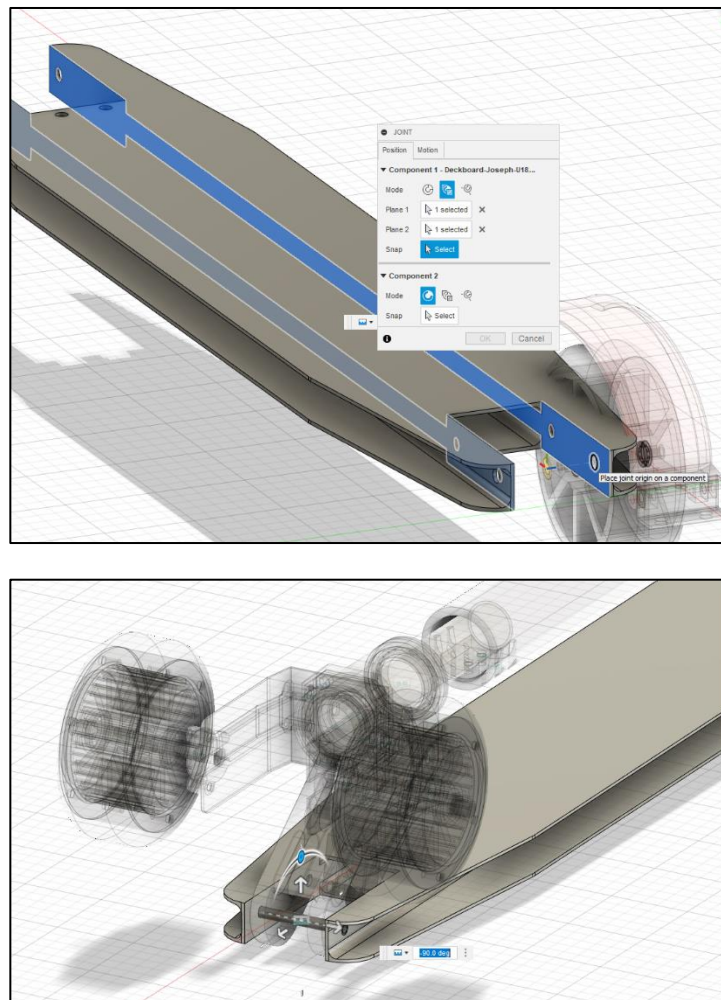

Figure 24. Jointing the center axis of shaft hole (Top) to shaft (Bottom).
3. Once inserted, under “Assembly”, select “Joint”. Set mode to “Between two faces” and select the central axis of the front shaft holes as “Component 1”. Next, select the center axis of the front shaft of the deck as “Component 2”. Set motion to “Rigid”. (See Figure 24)